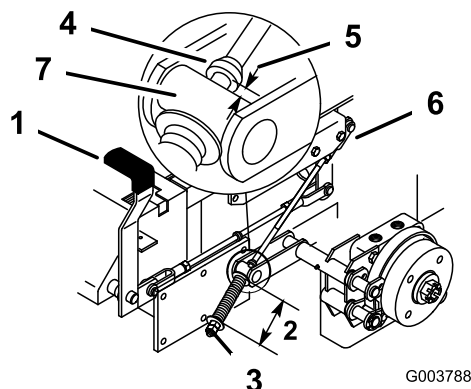

Figure 30
The measurement should be 2-3/4 inch (70 mm) between washers (Figure 30).
3. If adjustment is necessary, loosen the jam nut below the spring and tighten the nut directly below the yoke (Figure 30). Turn the nut until the correct measurement is obtained. Tighten the two nuts together and repeat on opposite side of unit.
The measurement should be 3/16-1/4 inch (5-7 mm) (Figure 30).
7. If adjustment is necessary, loosen the jam nut directly below the yoke. Turn the bottom rod until the correct measurement is obtained (Figure 30). Tighten jam nut at yoke